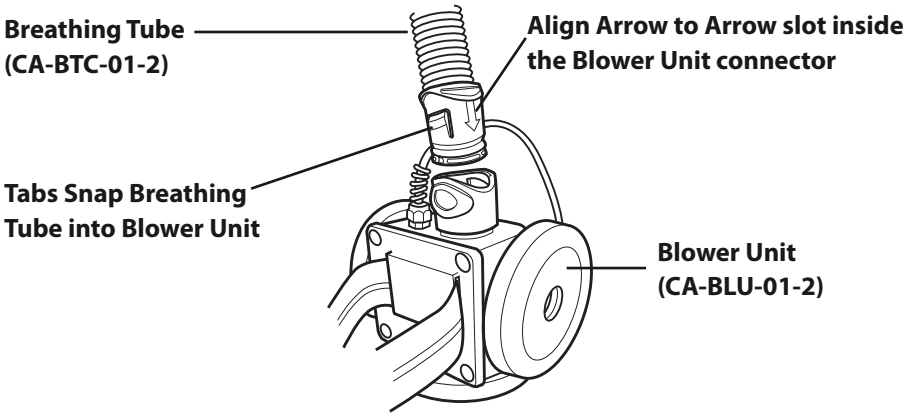

FIGURE 8
- Insert the new Breathing Tube, making sure the tabs of the Breathing Tube end connector snap into the connection on the blower unit (See Figure 8).